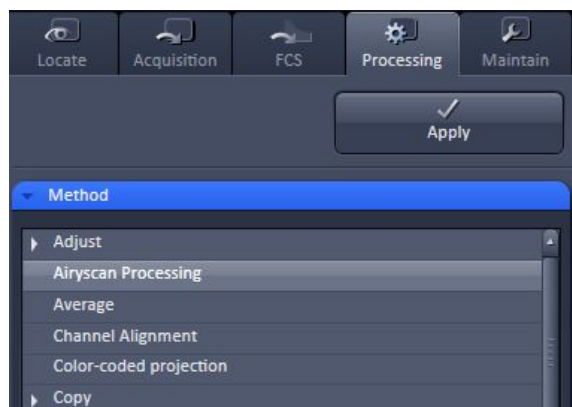

Fig. 252 Processing tab with Method selection list
- To process Airyscan data, choose the **Airyscan Processing** function in the method list (Fig. 252).